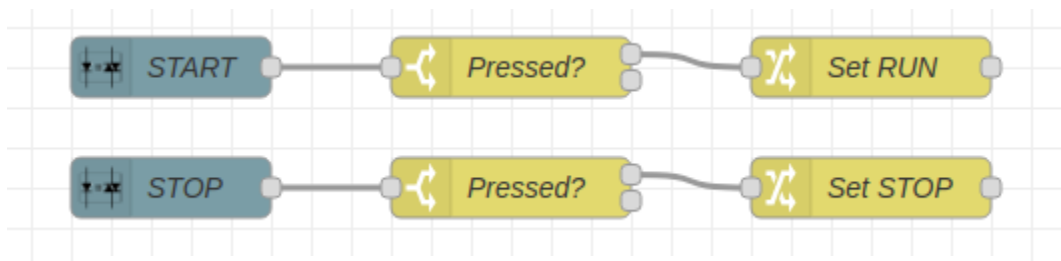
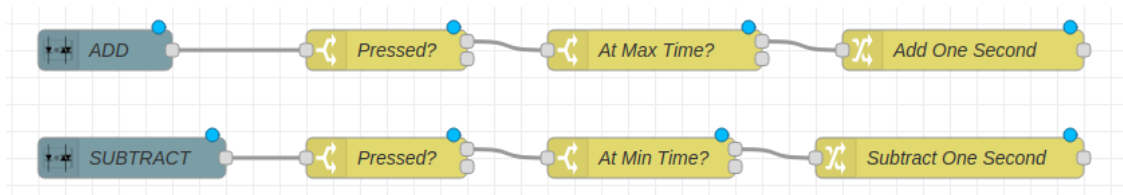

Figure 5-90: Button Flow (Take 1)
Figure 5-93: Add and Subtract Time Buttons (Take 1)
**Button Flow** - Now let's look at the Button flow, which includes both the START/STOP buttons from Figure 5-90 and the ADD/SUBTRACT from Figure 5-93 as below.